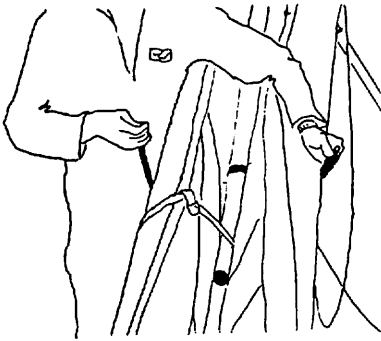
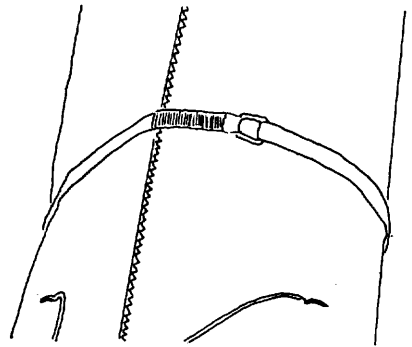

FIG 65
FIG 66
10) Roll the second side, and place one velcro strap OVER the keel and around each leading edge and rolled sail in the vicinity of the leading edge/crossbar junction. (Fig 65) The mylar pocket from one side should be pulled underneath that of the other side, the mylar should sit on top of the leading edges, and lay smooth. do not overtighten the velcro. (Fig 66) Secure